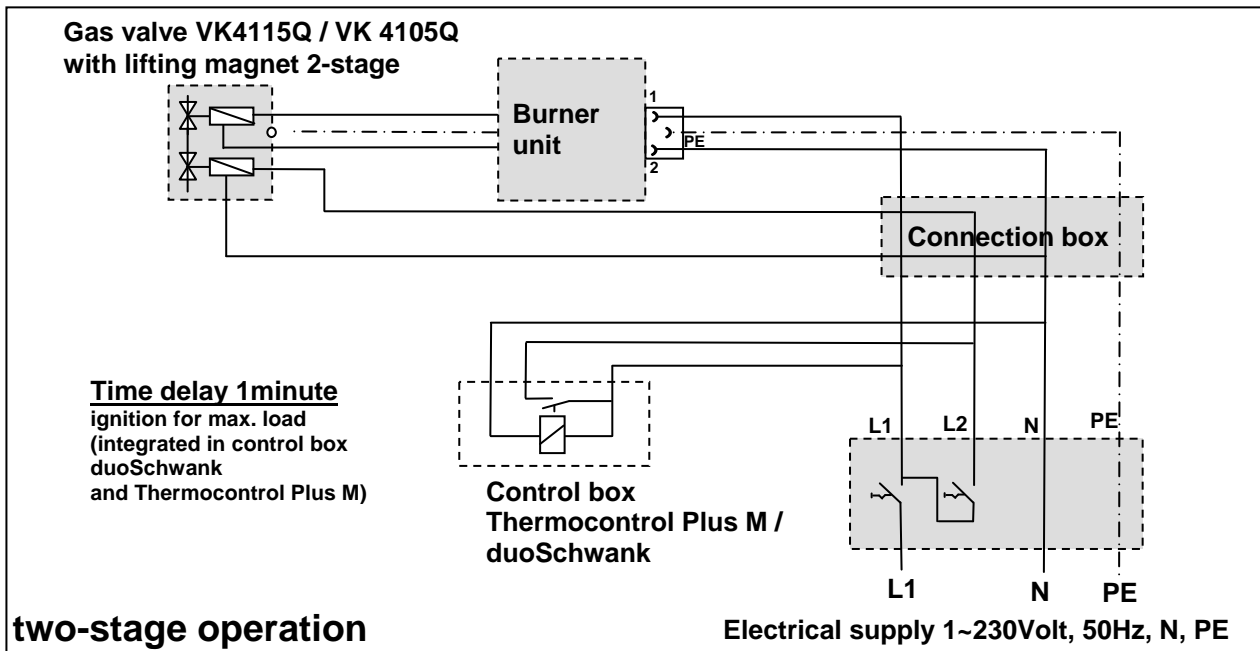

Fig. 25: Connecting diagram two-stage regulation infraSchwank D / calorSchwank D
- ⇒ Route the connection cable (power supply burner unit) to the three-pin plug and connect the cables (see Fig. 25, page 27).
- ⇒ The connection cable of the modulation spool connects by a branch box (see Fig.25, page 27).